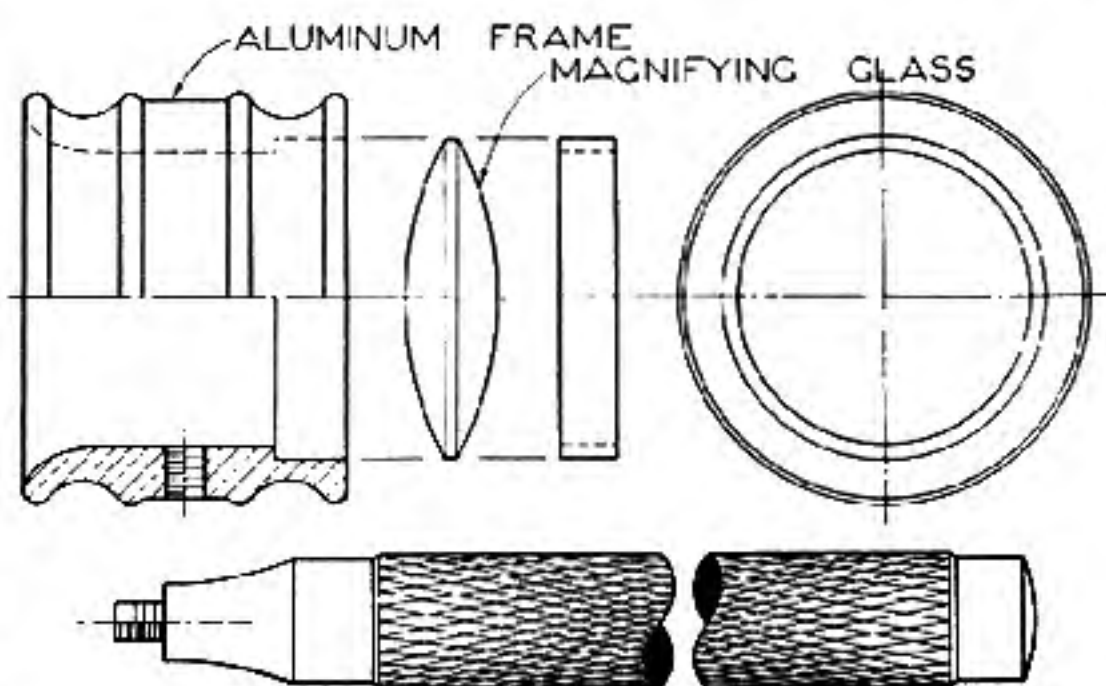

Fig. 13
**Magnifying Glass**—A very handy and inexpensive instrument for the inspection of surfaces, muzzles, etc., as a means of detecting any scars on surfaces, and for inspecting the cutting edge of a honed reamer. Figure 13 illustrates one that can be made; but first purchase a standard jeweler's glass and set it into the holder shown.